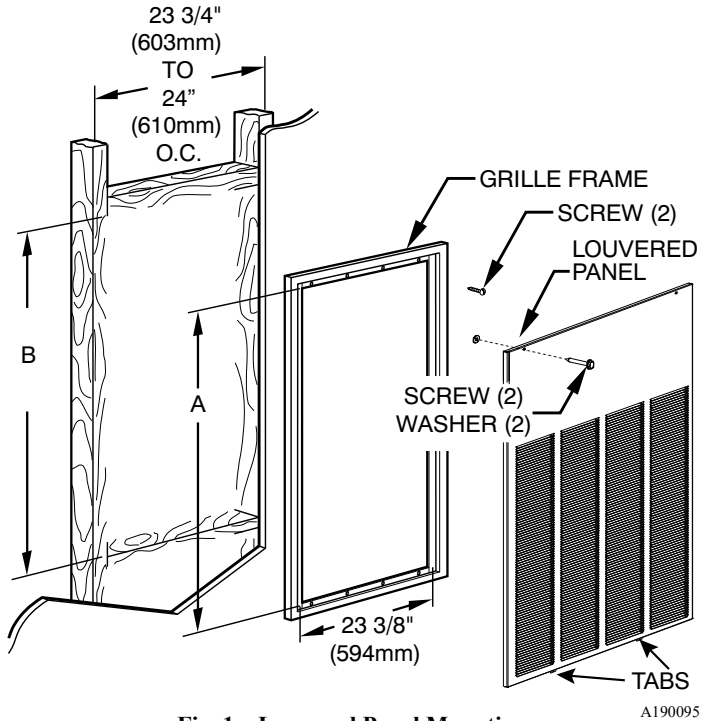
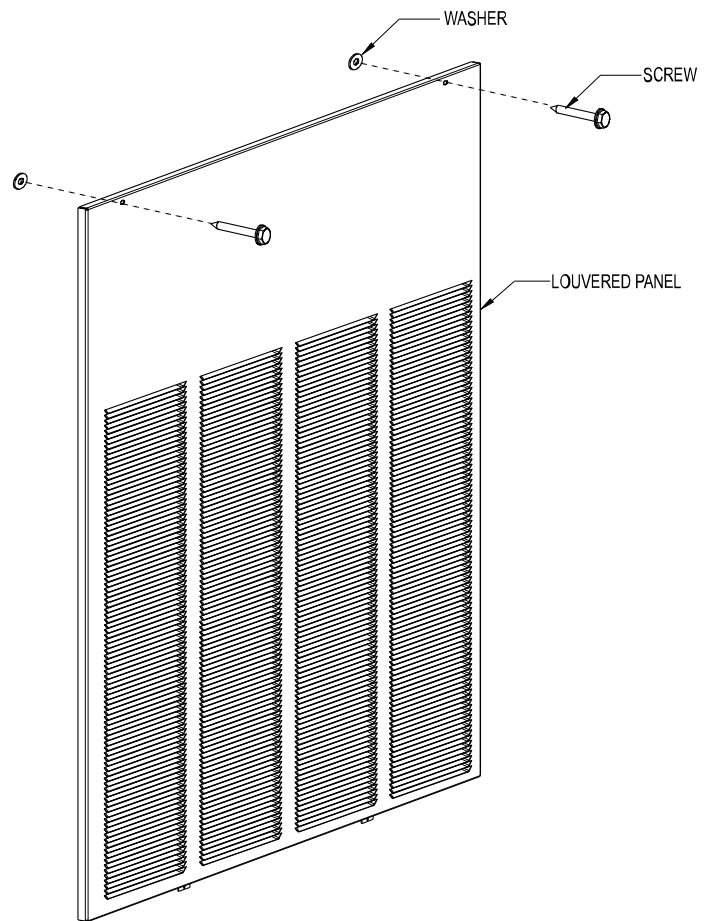

Fig. 1 – Louvered Panel Mounting
Fig. 2 – Louvered Panel, Screws and Retaining Washers
1. Align grille frame around fan coil unit with screw holes over surrounding 2 X 4 wall framing (Fig. 1).
4. Fasten louvered panel to grille frame with two 3/4 inch (19.05 mm) screws with retaining washer (Fig. 1 and Fig. 2).
Refer to Fig. 1. Note that spacing between the 2 x 4 vertical studs is 23-3/4 to 24 in. (603 mm to 610 mm) on center. Some applicable fan coil units are 20.5 in. (521 mm) wide and others are 22 in. (559 mm) wide. See the fan coil product specification sheet for dimensions. This leaves a maximum gap of 1/2 in. (13 mm) or 2 in. (51 mm) on one side between the unit and the 2 x 4 stud. If frame mounting the unit, shim the gap to properly align and support the fan coil unit. The horizontal bottom 2 x 4 shelf should be 6 to 18 in. (152 mm to 457 mm) above floor level.